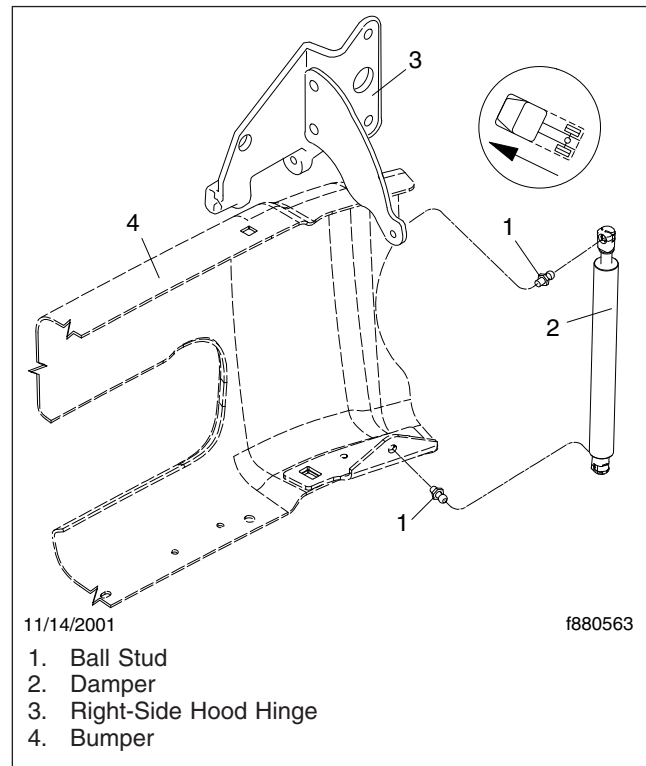

Fig. 3, Bumper-Mounted Hood Damper Installation
6. Disconnect the hood damper from the hood; see Fig. 3.
7. Attach the hood damper to the hood bracket; see Fig. 3.